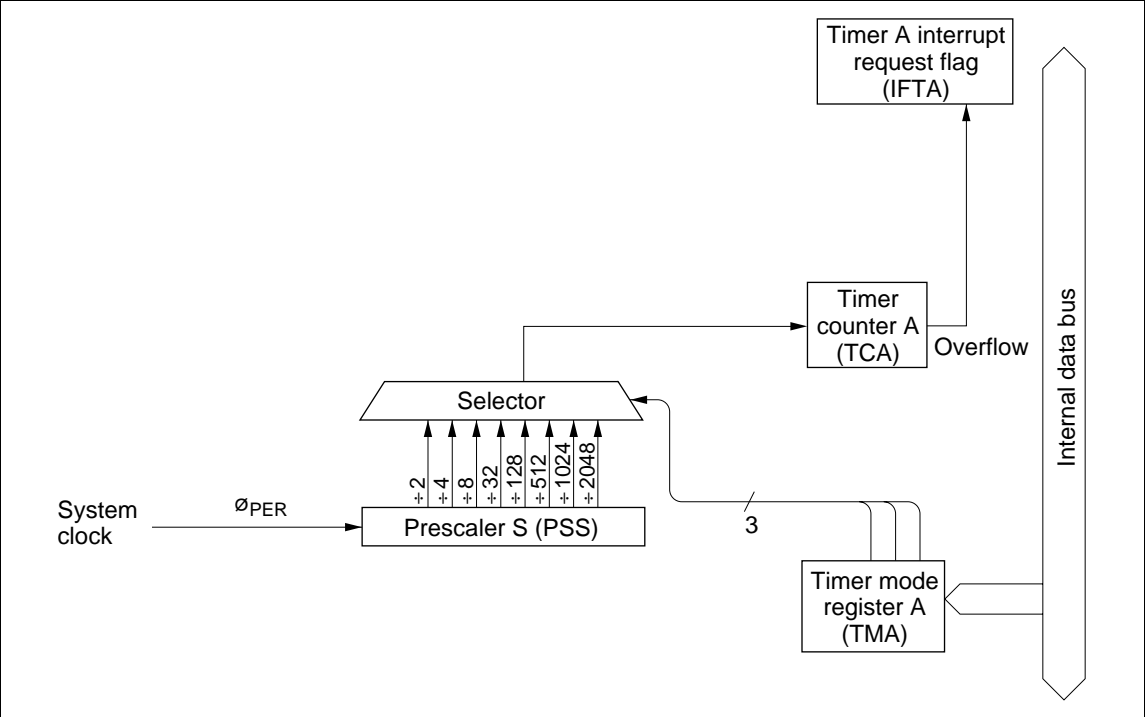

Figure 29 Timer A Block Diagram
- The block diagram of timer A is shown in figure 29.